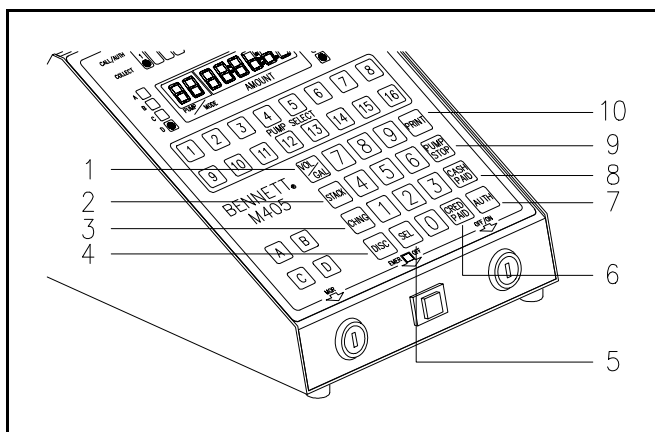

Figure 24
**The Data Entry Buttons.** See Figure 24.
**Function Buttons.** See Figure 24.